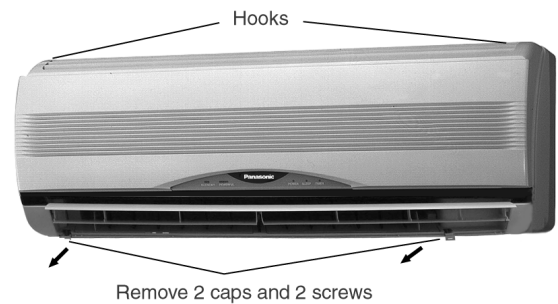

Fig. 1
- Remove the 2 caps and 2 screws at the bottom of the Front Grille. (Fig. 1)
- Remove the Front Grille by releasing the 2 hooks at the top of the Front Grille. (Fig. 1)